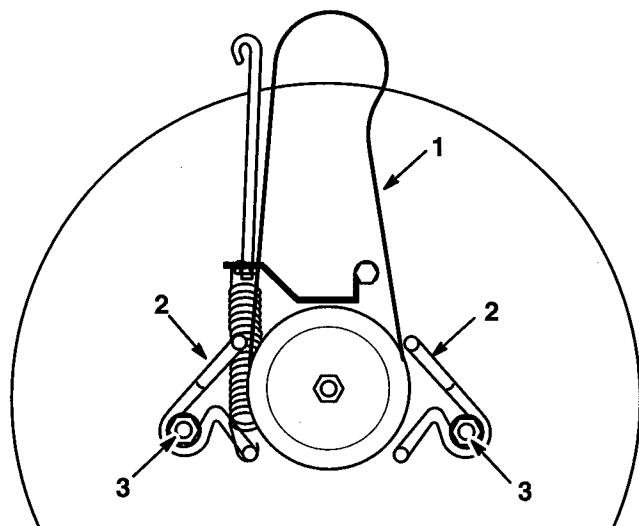

Figure 43
2. Loosen the belt guide mounting bolts and move belt guides away from the pulley (Fig. 43).
1. Install the new belt around the blade pulley and inside both belt guides (Fig. 43).
2. Adjust the belt guides so they are no more than 1/8" away from the pulley and tighten mounting bolts (Fig. 43).